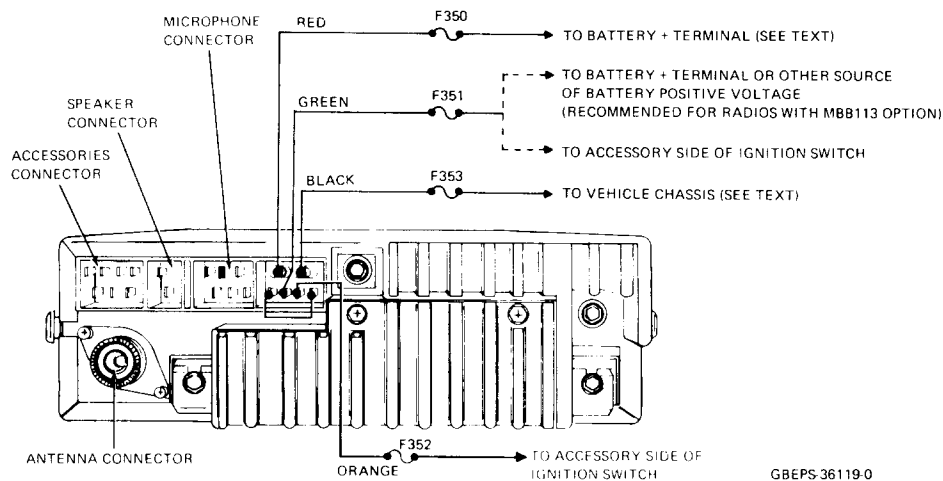

Figure 2. Power Lead Connections for Front Mount Mobile Radios
Step 4. Install the dc power cable in accordance with the instructions provided in Figures 2 through 4. MBB113 is the ignition control of PTT option.